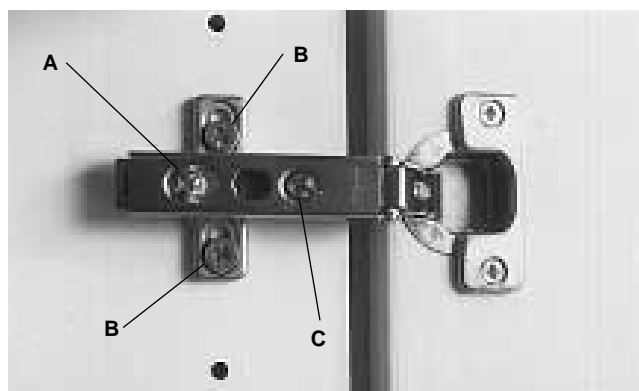

FIGURE 37
2. Refer to Figure 37 to locate the adjustment screws.